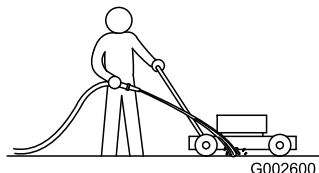

Figure 16
3. With the engine running and the blade engaged, spray a stream of water in front of the **right**, rear wheel (Figure 16).